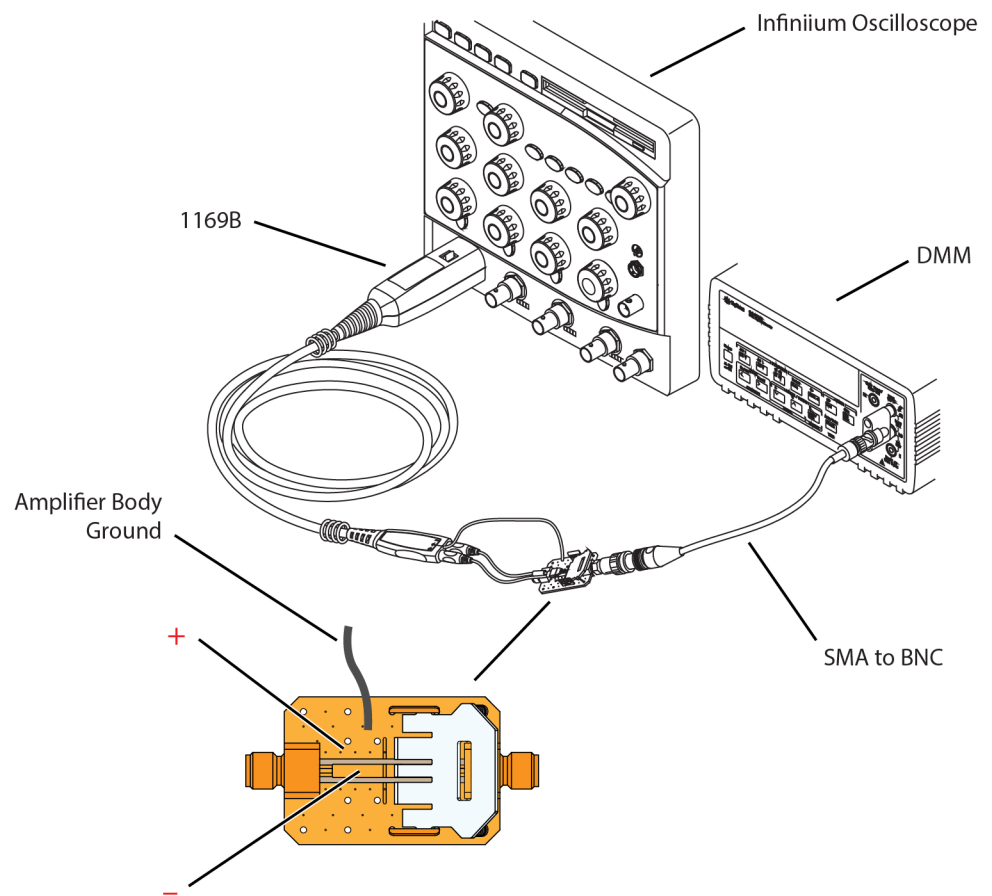

Figure 223 Probing Locations on PV Test Board for Differential Test
- 5 Connect the probe's amplifier body to ground on the PV/DS test board as shown in **Figure 223** on page 232.